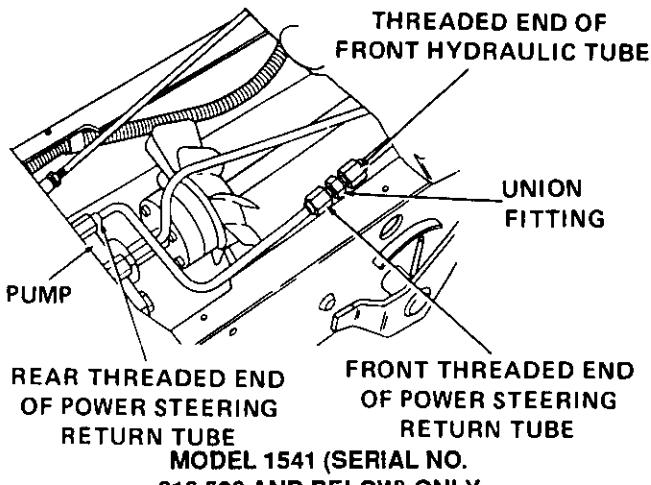

Figure 21
4. For tractor Model 1541 (Serial No. 816,508 and below) only, complete installation of front outlet tube (L) and power steering return tube (N) as follows:
a. Secure the threaded female fitting on the front outlet tube to union fitting (M). Refer to Figure 21.
b. Position front end of power steering return tube as shown in Figure 21, and secure to the union fitting (M).
c. Position rear end of power steering return tube as shown in Figure 21, and secure to the threaded fitting on the pump.